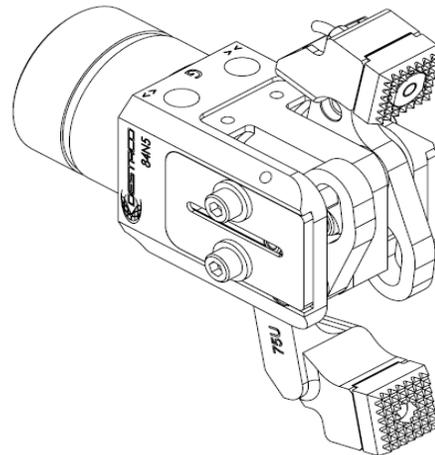

Fig.33
3. Insert the new sensor housing in the same position and tighten it using 10mm and 6mm wrench (see Fig.33).